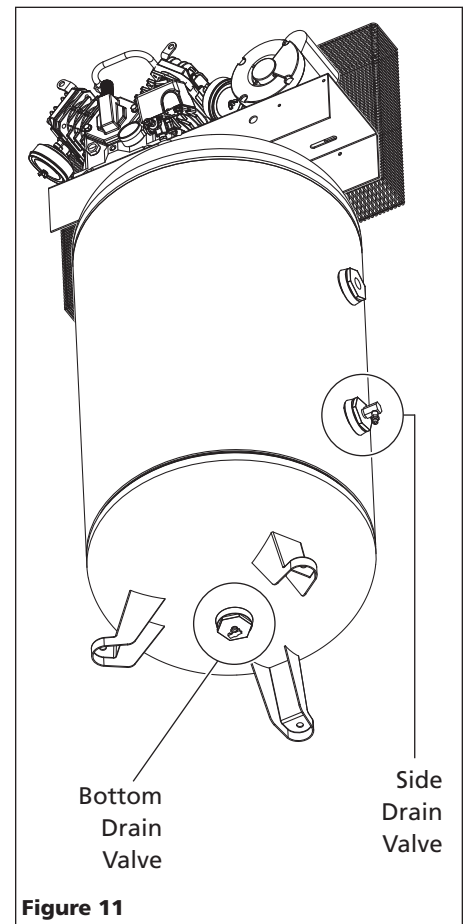

Figure 11
2. Drain Tank. With compressor shut off and pressure released: Drain moisture from tank by opening drain valve underneath tank (See Figure 11).